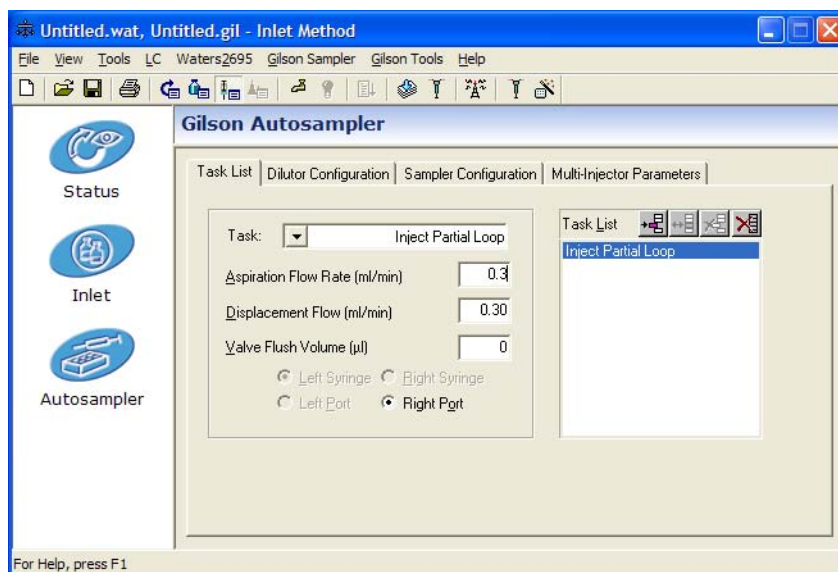

Figure G-10 Autosampler Parameters: Inject Partial Loop
12. Select Inject Partial Loop from the Task drop-down list and enter the parameters as shown in Figure G-10.